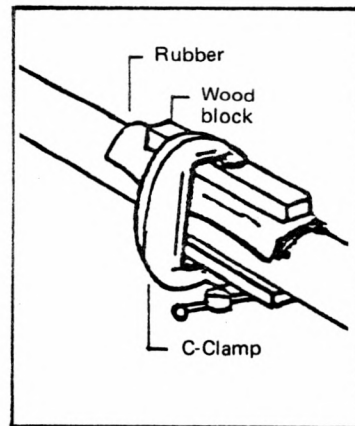

FIG. 4-7 CLAMP, WOOD BLOCK AND RUBBER TO STOP LEAK
- d. Place the rubber over the leak. Cover with the wood block, and tighten in place with a C-Clamp. See Figure 4-7.